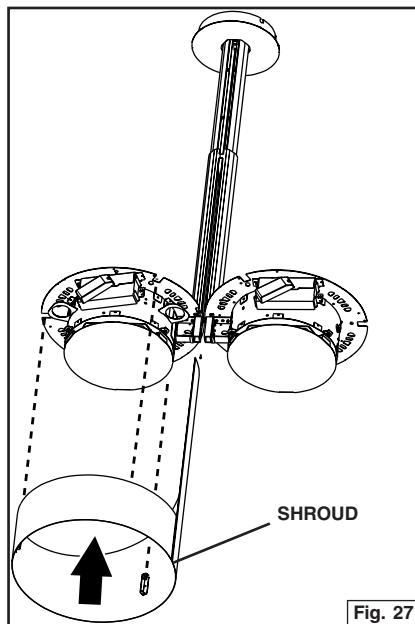
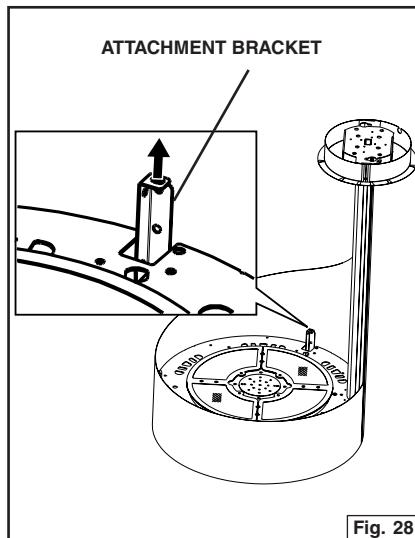

Fig. 27
Fig. 28
1. First Slide the Shroud between the support arms. Make sure the attachment brackets are above the power unit flange. Fig. 27 and Fig. 28.